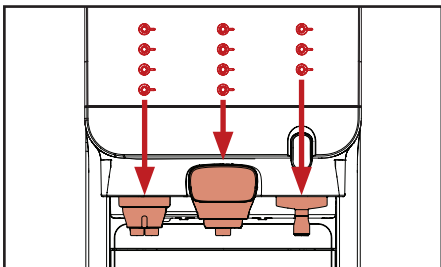

Fig. 4.4 - Buttons correspond to outlets
1. Place your cup directly underneath the outlet of your selection (fig. 4.4).